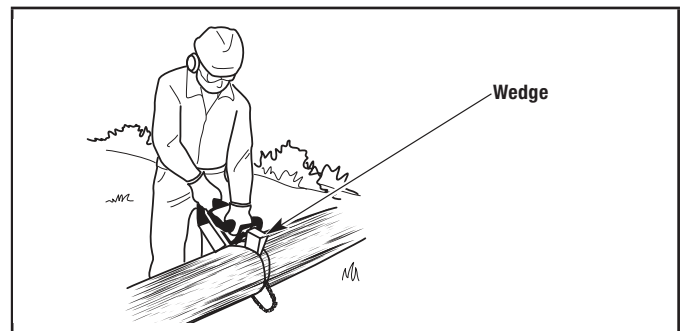

Figure 20
2. Make the second cut from the opposite side until the two cuts meet. If the diameter of the wood is large enough, insert soft plastic or wooden wedges to hold the cut open and prevent pinching (Fig. 20). Take care not to touch the wedges with the saw chain.